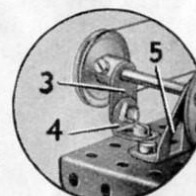

Fig. O.6a.
The Bolts (1) are fitted with *lock-nuts* so that the parts they attach are free to pivot. Bearings for a 2" Rod, the end of which is seen at (2), are provided by a Fishplate (3), Fig. O.6a, bolted to an Angle Bracket (4), and a Trunnion (5).